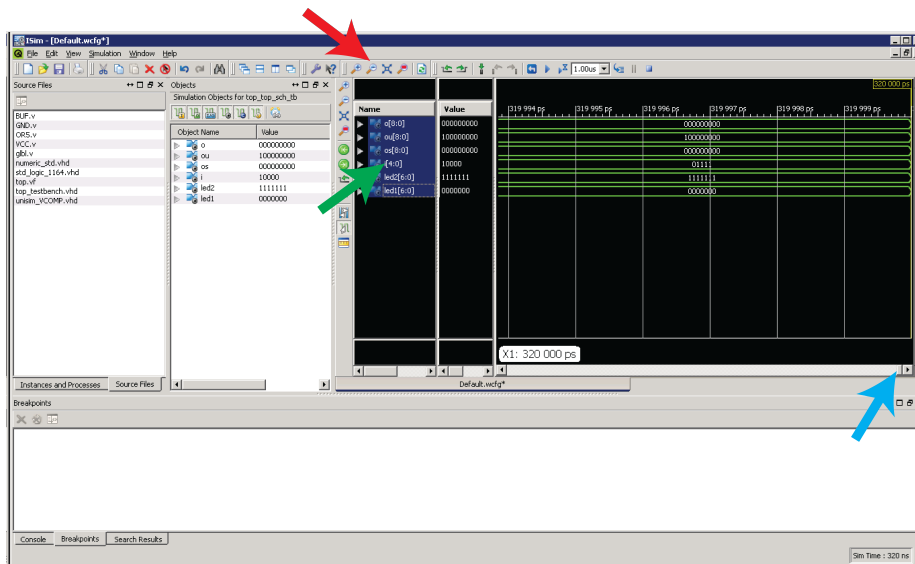
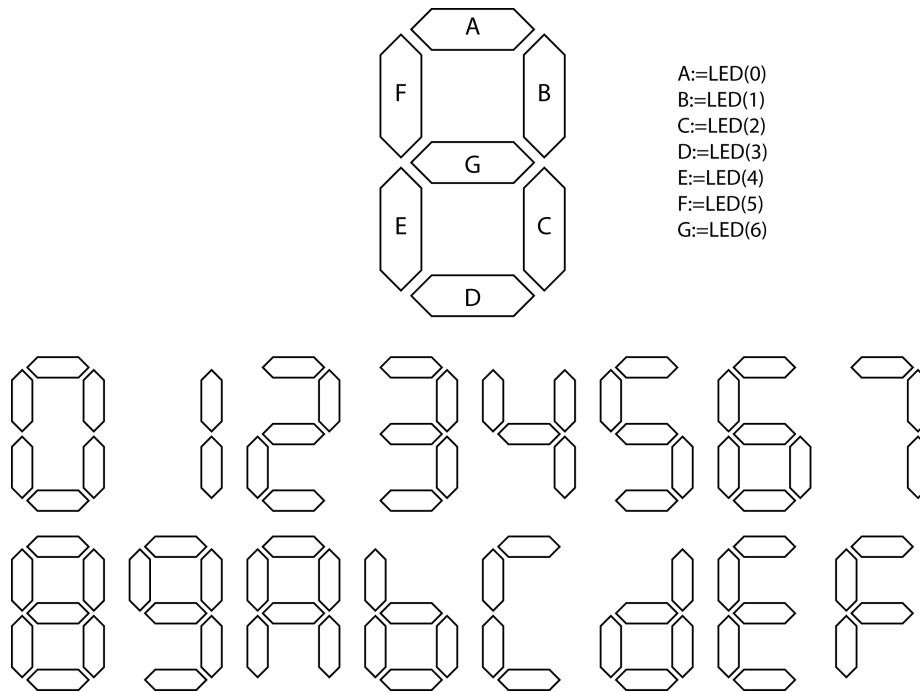

Figure 2: Screenshot of the ISim simulator
Figure 3: 7 segment LED display and how it is used to display the hexadecimal digits
Generate the correct control signals for these hexadecimal displays (see figure 3 and assign them to the output signals LED1 and LED2. Do not worry about the sign bit, which is simply the output bit `o(8)` For example, if your sign and magnitude result is 111010010 (-209) the hexadecimal display should show -D2. The bit pattern to display a 'D' (actually displayed as a lower case 'd') is '1011110', the pattern for '2' is '1011011'.
The ISim simulator opens in another window as displayed in figure 2. It shows a number of signal traces. If you zoom out a couple of times (red arrow), you will discern that one signal has a few signal transitions, the signal named 'i(4:0)' which will be the test input for your circuit. If you select its label (green arrow) and then right click on it there appears a pull down menu. From this menu choose 'radix->signed decimal'. By using the slider you can now look at this signal and will note that it counts from -16 up to 15, i.e. all possible inputs. The other signals will be your outputs but they do not yet work correctly of course. os(8:0) will be your two's complement result of the input multiplied by 10. ou(8:0) will be the inverse two's complement. For the magnitude and sign output o(8:0) you will either choose os(8:0) (if the result is positive) or os(8),ou(7:0) (if the result is negative). Alternatively you might want to convert the input to 'sign and magnitude' before multiplying, in which case you would actually only need ou(4:0) and os(4:0). In short: you may choose to display any intermediate result through ou and os that you find useful. The signals LED1 and LED2 will be the outputs to the 7-segment LED displays for the hexadecimal display. LED1(0) corresponds to the LED 'A' in figure 3 and LED1(6) to 'G'. There are two more signals displayed, disp1 and disp2. If you set their radix to 'ASCII' they will display the hexadecimal digit that